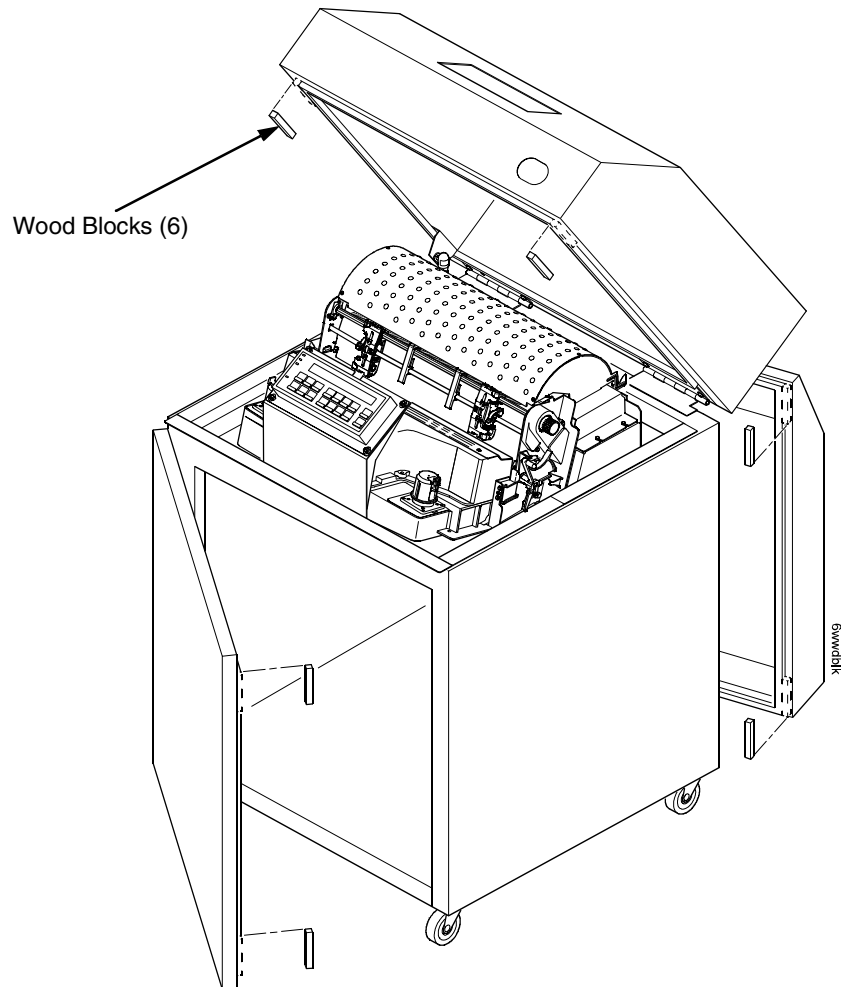

Figure 10. Removing the Foam Strips and Protective Film
1. Slide the two paper supports toward the center of the support shaft. Position them so that they divide the space between the tractors into three approximately equal segments. See Figure 10.